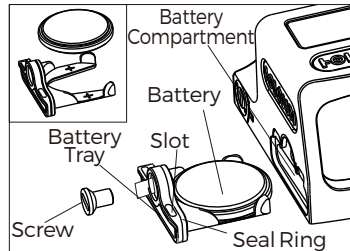

Fig 4
3. Battery Replacement. (See Fig 4)